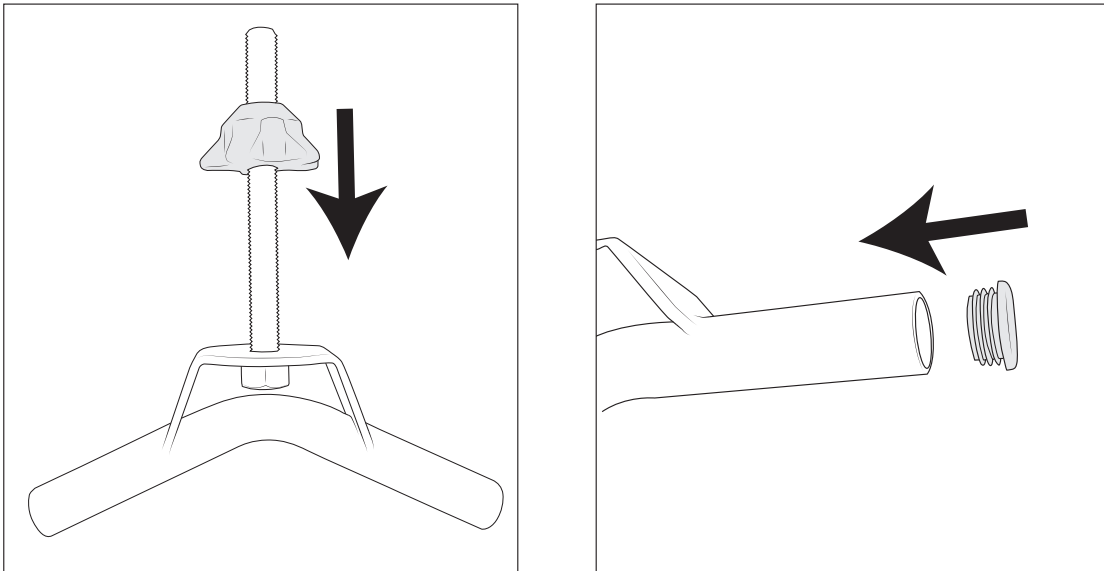

Figure 13
1. Slide molded spacer onto threaded portion of handle (fig. 13).
2. Install 1 1/2" end caps on to handle (fig. 13).